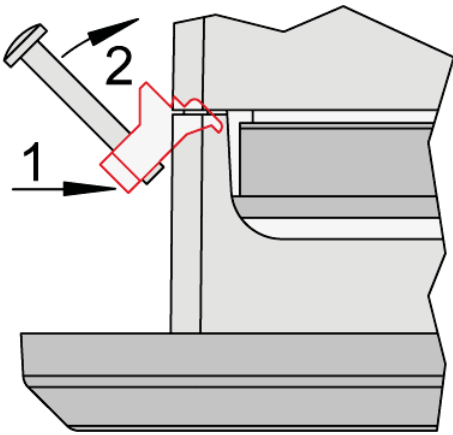

Fig. 13: Attach clamp inserts
5. → Re-install the clamp inserts by tilting the insert to a 45° angle. (Fig. 13/1) Insert the nose of the insert into the slot on the side of the housing. (Fig. 13/2) Raise the clamp insert so that it is parallel to the control panel.